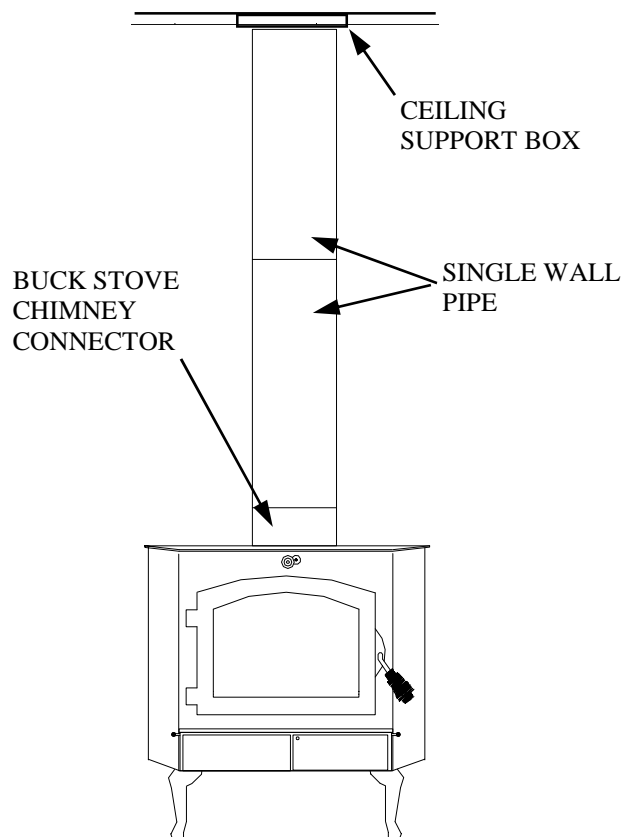

FIGURE 8
- Now connect stove to ceiling support box by using #24 ga. minimum blued or black steel chimney pipe. (Do not use galvanized pipe.) Connect each section so crimped end faces downward, and secure each section to each other using at least three (3) sheet metal screws or rivets. (See Figure 8)